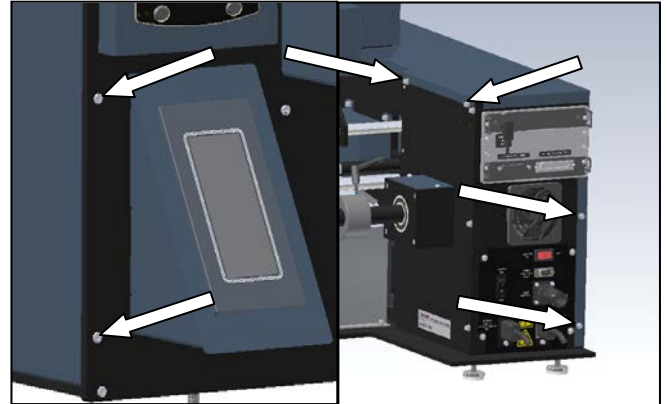

Figure 3-18. Frame Cover Screws
1. Remove Frame Cover Screws; there are six screws to remove (Figure 3-18).